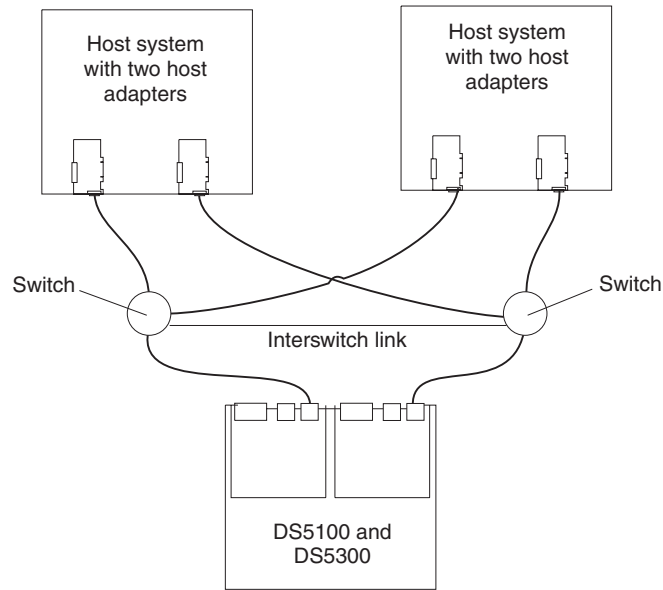

Figure 91. Example of a single SAN fabric configuration
- Single SAN fabric configuration, as shown in Figure 91 on page 141
Figure 91 on page 141 gives an example of two host systems with fibre channel switches connected by an interswitch link, forming a single SAN fabric configuration.